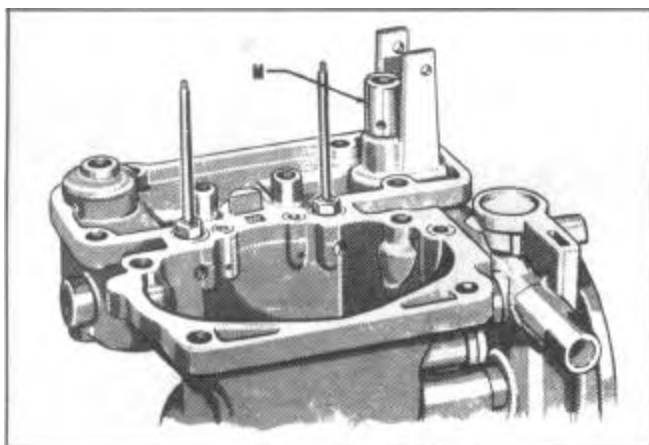

FIGURE 75
11. Install needle seat and gasket assembly (M), Figure 75.